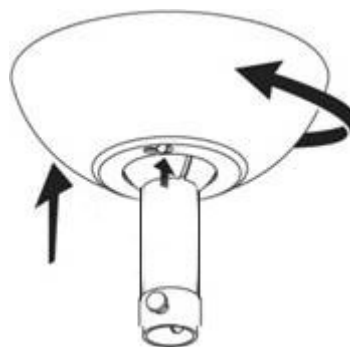

Figure 15 – Installing the Canopy
3. Twist the Canopy to lock it in place and then tighten the screws to secure it. Refer to Figure 15.